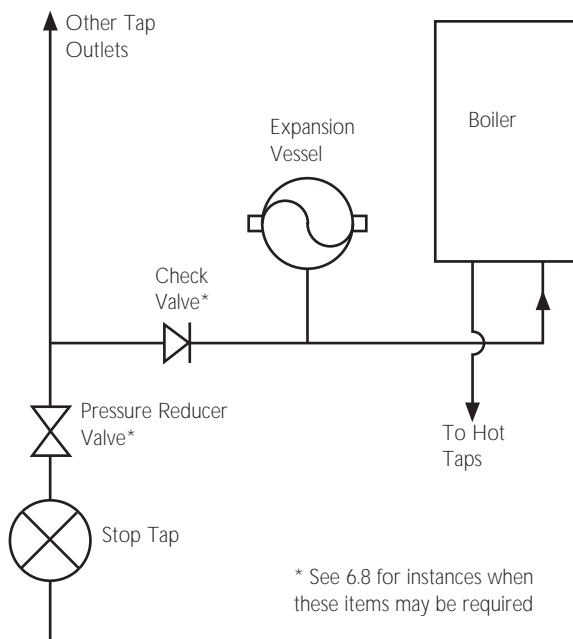

Fig. 7
6.8 Domestic Hot Water Circuit (Fig. 7)